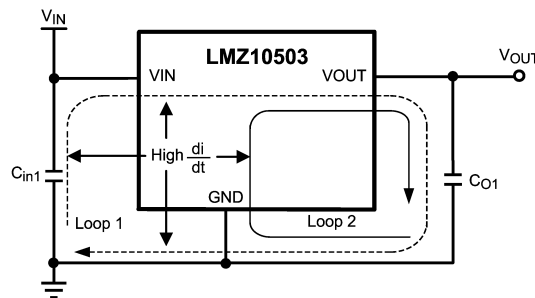

Figure 21. High Current Loops
From an EMI reduction standpoint, it is imperative to minimize the high di/dt current paths. The high current that does not overlap contains high di/dt , see Figure 21. Therefore physically place input capacitor (C_{in1}) as close as possible to the LMZ10503 VIN pin and GND exposed pad to avoid observable high frequency noise on the output pin. This will minimize the high di/dt area and reduce radiated EMI. Additionally, grounding for both the input and output capacitor should consist of a localized top side plane that connects to the GND exposed pad (EP).